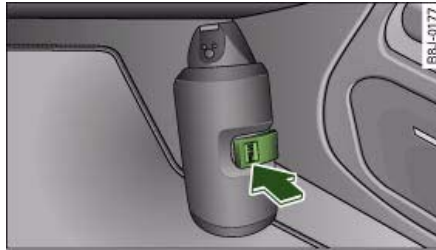

Fig. 224 Fire extinguisher in footwell on front passenger's side
- Unfasten the retaining strap by pressing on the tab marked "PRESS" ⇒ fig. 224 -arrow-.